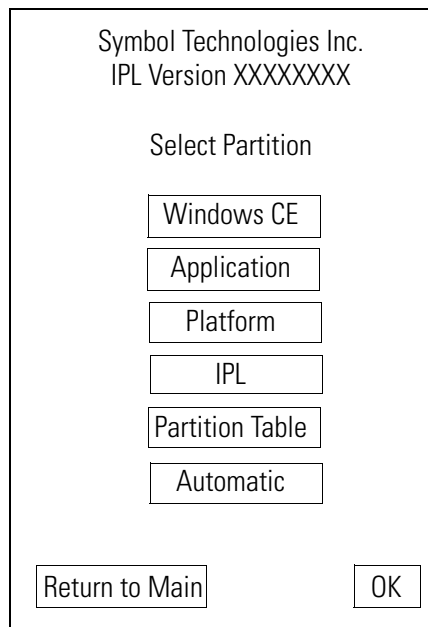

Figure 6-12. Initial Program Loader (IPL) Select Partition Menu
- To exit IPL, select the *System Reset* item from the IPL menu (see Figure 6-12 on page 6-13).